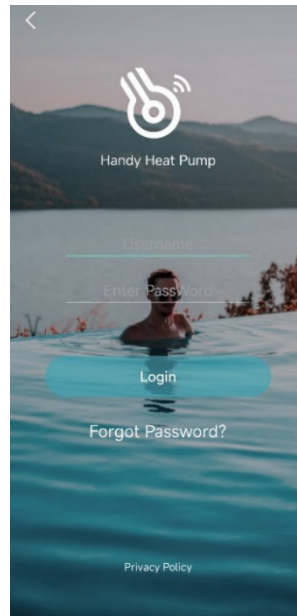

Fig. 1: Login Menu
3. From the login page (Fig.1) enter your registered email and password and then press Login. If you forget your password, you can head to the Forgot Password screen and follow the prompts.